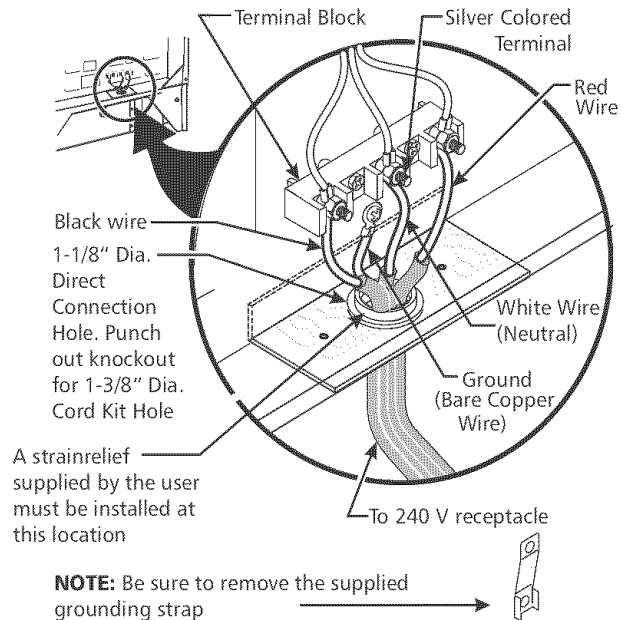

Figure 4
For mobile homes, new installations, recreational vehicles, or areas where local codes do not permit grounding through neutral, a 4 conductor power supply cord kit rated at 125/250 volts minimum, 40 amperes and marked for use with ranges should be used (see Figure 4).
6. Replace the 3 nuts on the terminal block (see figure 4).
4. Connect the ground wire (green) of the copper power supply cord to the frame of the appliance with the ground screw, using the hole in the frame where the ground strap was removed (see Figure 4).
If the appliance is connected directly to the circuit breaker, fuse box or junction box, use flexible, armored or nonmetallic sheathed copper cable (with grounding wire). Supply a U.L. listed strain-relief at each end of the cable. At the appliance end, the cable goes through the Direct Connection Hole (see Figure 4) on the Cord Mounting Plate. Wire sizes (**copper wire only**) and connections must conform to the rating of the appliance.